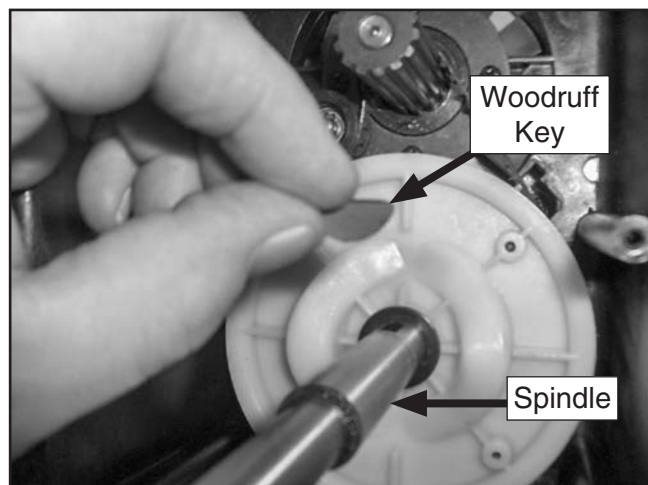

Figure 29. Installing Woodruff key into spindle.
18. Install Woodruff key (#56) into spindle (#55), as shown in **Figure 29**.